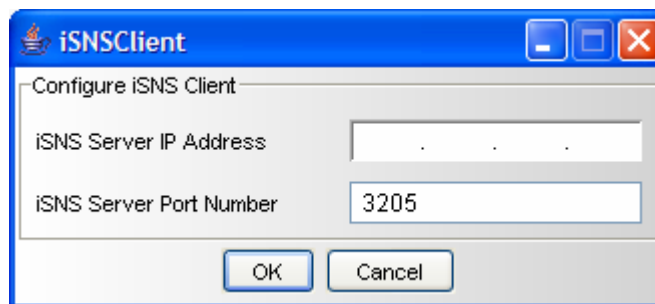

Figure 5-40. iSNS Client Dialog Box
1. On the **File** menu, click **Configure iSNS Client**. The iSNSClient dialog box appears (see Figure 5-40).